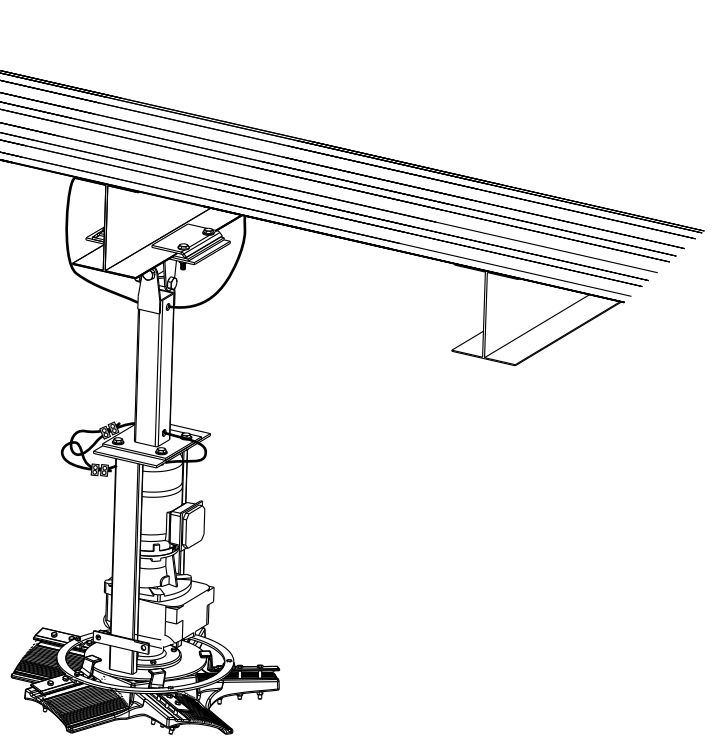

Fig.13
2. Position the safety cable as per Fig.13, loop at both ends.